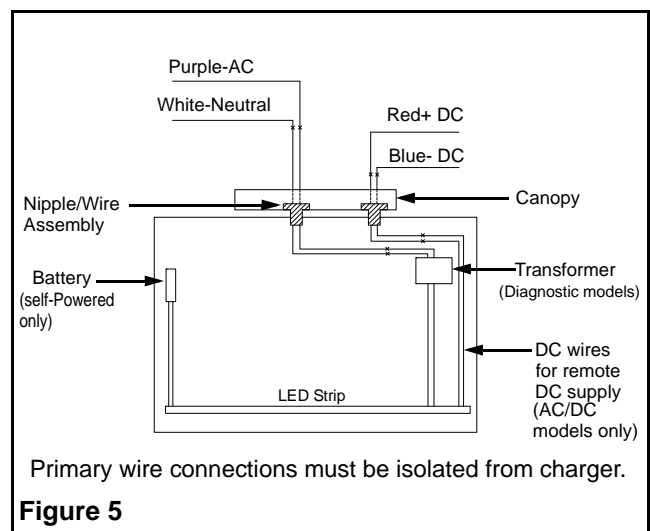

Figure 5
2. **Electrical connections:** Using the sealed AC nipple/wire assembly (3 wires), connect one end to the leads inside the enclosure, and the other end, to AC line voltage inside the junction box. Connect the green ground wire to the ground of the junction box. Connect the white lead to neutral and the purple lead to AC line voltage (the input is universal 110 to 347 VAC) (see Figure 5).
**Optional:** For AC models used with DC remote power, the sealed DC nipple/wire assembly (2 wires) will also need to be installed. One end connects to the LED-STRIP leads, inside the enclosure, and the other end to DC input inside the junction box. Connect the red lead to positive, and the blue lead to the negative of the remote DC input (see Figure 5).